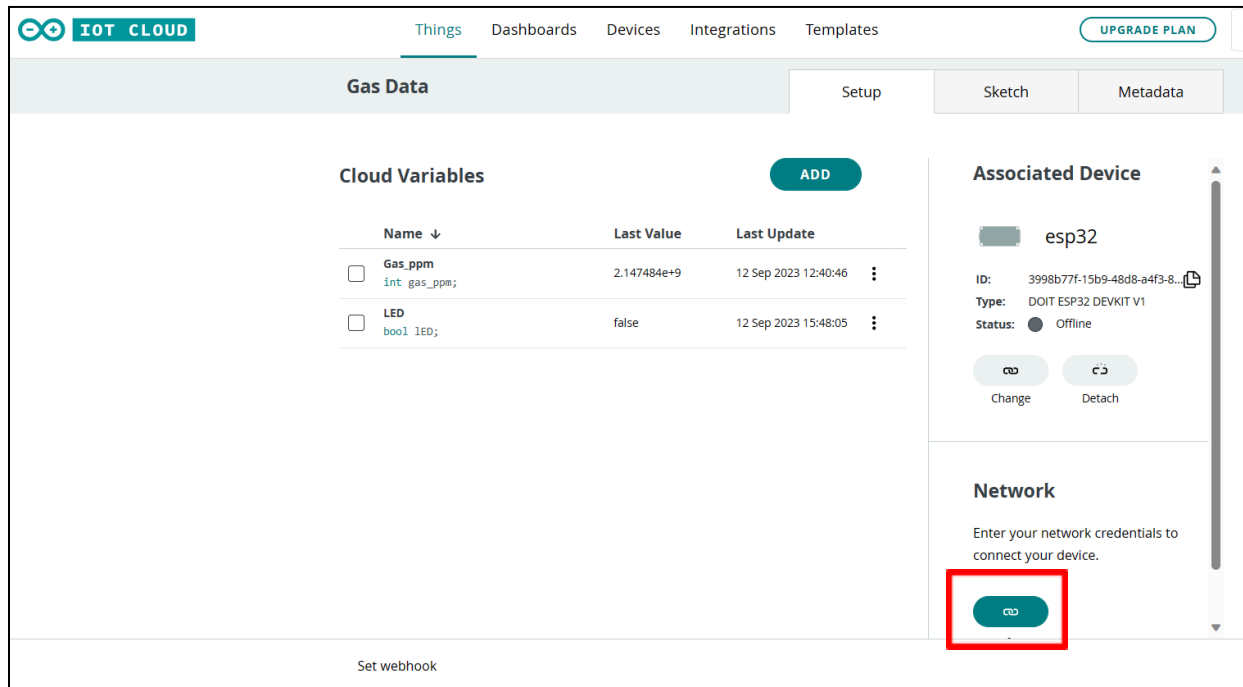

Fig. 17: Set Up Network
1. Click on the button in the "Network Section" at right bottom as shown in Fig. 17 (marked by red box)